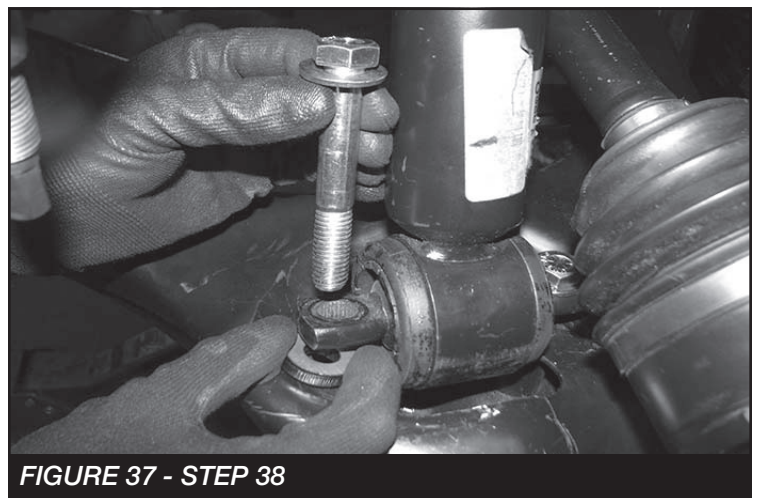

FIGURE 37 - STEP 38
38. Rotate the lower control arm up and mount to the lower coilover bar pin using the supplied 1/2"-13 X 3-1/2" bolts and hardware. **NOTE:** Install the lower bar pin spacers under the bar pin (FT30604). Torque to 127 ft-lbs. **SEE FIGURE 37**